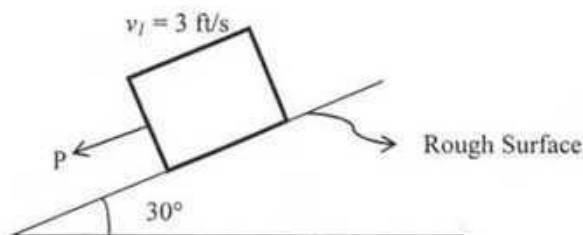

Figure 4
8) The 50-lb crate shown in Figure 4 is acted upon by a force having a variable magnitude  $P = (20t)$  lb, where  $t$  is in seconds. Determine the crate's velocity 2 s after  $P$  has been applied. The initial velocity is  $v_i = 3$  ft/s down the plane, and the coefficient of kinetic friction between the crate and the plane is  $f_k = 0.3$ .